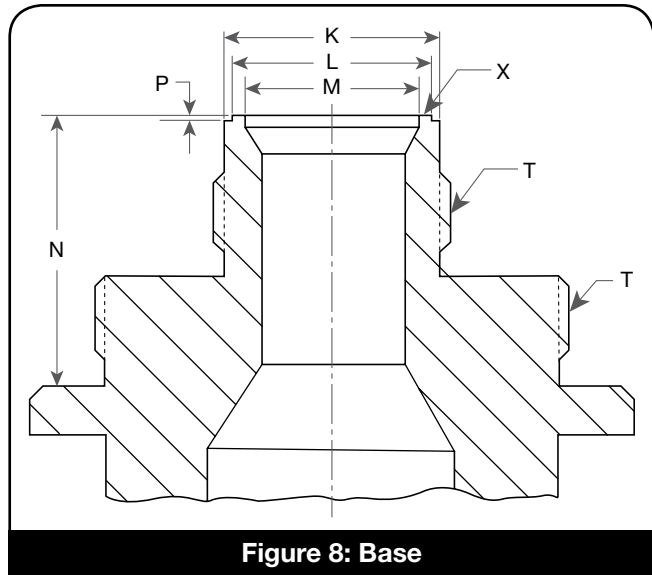

Figure 8: Base
Base (Figure 8) should be replaced:
c. Dimensions in Table 4 (Figure 8) exceeds minimum values.